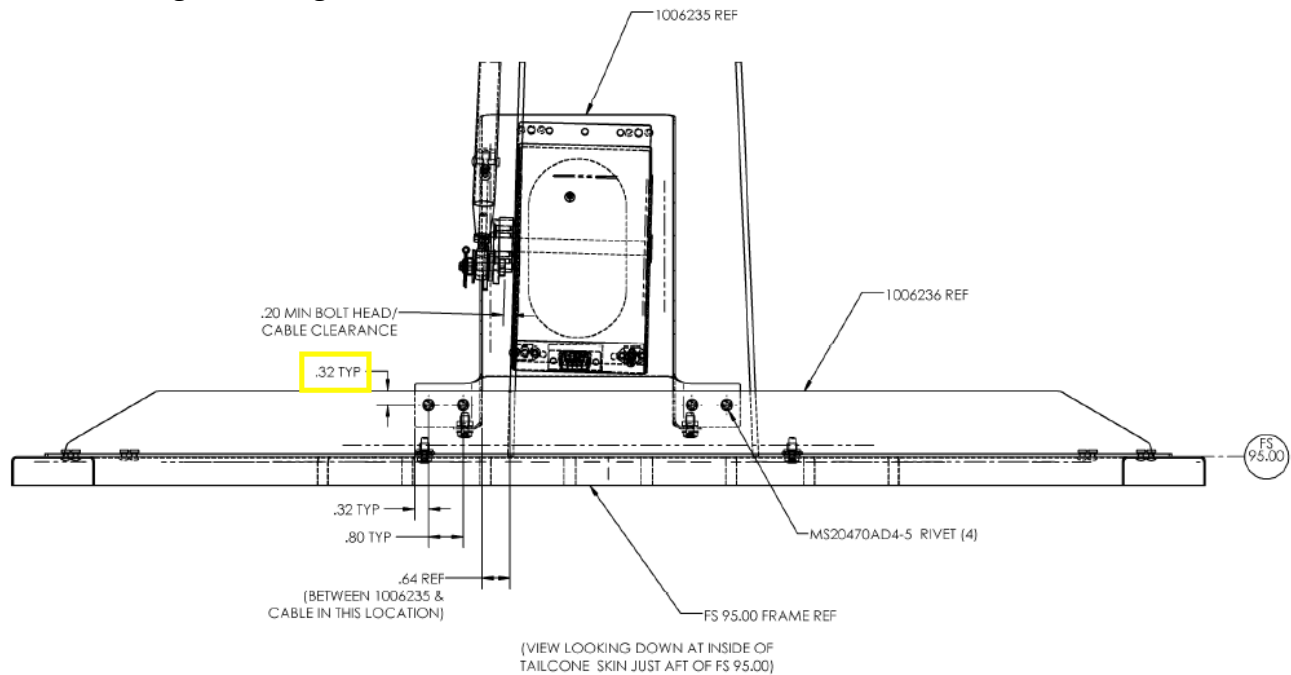

FIGURE B- 6 PITCH INSTALLATION TOP VIEW
11. Drill the 4 upper bracket holes through the angle with a #30 drill bit ensuring proper edge distance on the angle and bracket. Install clecos. Refer to Figure B-6.